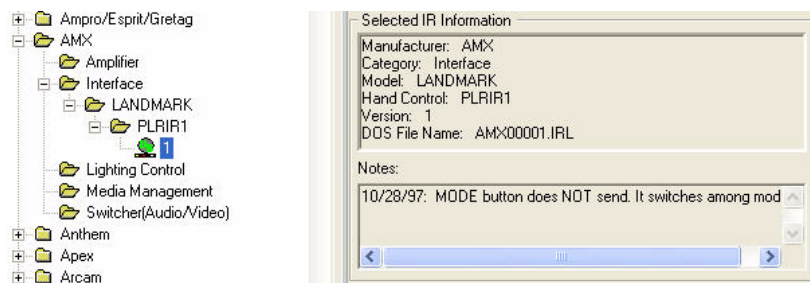

FIG. 79 Selected IR Information pane
2. From the directory tree, click on the AMX folder to open it. Select the appropriate IR file, and the *Selected IR Information* pane will display the available information on the file (FIG. 79).